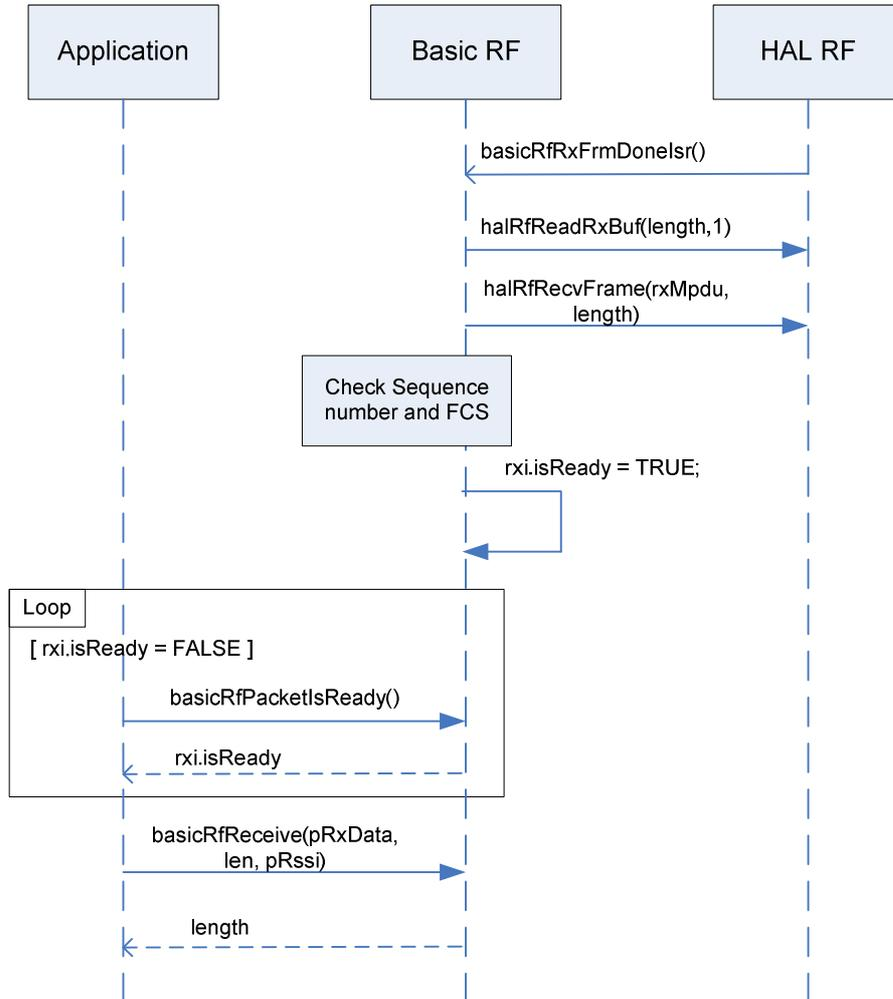

Figure 10 Packet reception
The sequence of function calls for a packet reception scenario with security features disabled is illustrated with Figure 10.
With reference to Figure 10 these are the steps that are performed during a packet reception with acknowledgement request.
1. When a new packet is completely received the RF FIFOP interrupt is issued and the macMcuRfIsr interrupt service routine function in the HAL_RF module is called. This leads to the basicRfRxFrmDoneIsr() interrupt service routine being invoked. See Figure 10.
2. The length of the received frame is read out from the first byte in the RX buffer on CC2430. This is done with the call halRfReadRxBuf(length, 1) in Figure 10.